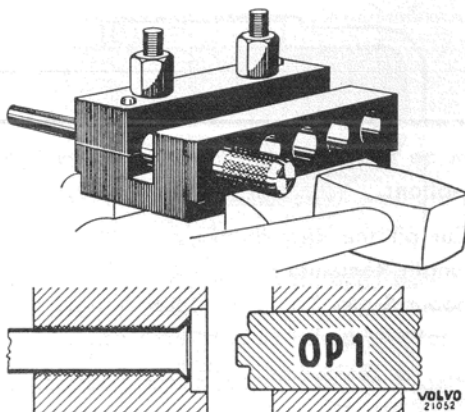

Fig. 27. Flanging the brake pipeline
3. Place drift OP 1 in the tool. Strike the drift with copper mallet until the drift bottoms. The edge of the pipe is thus flanged as shown in Fig. 27.